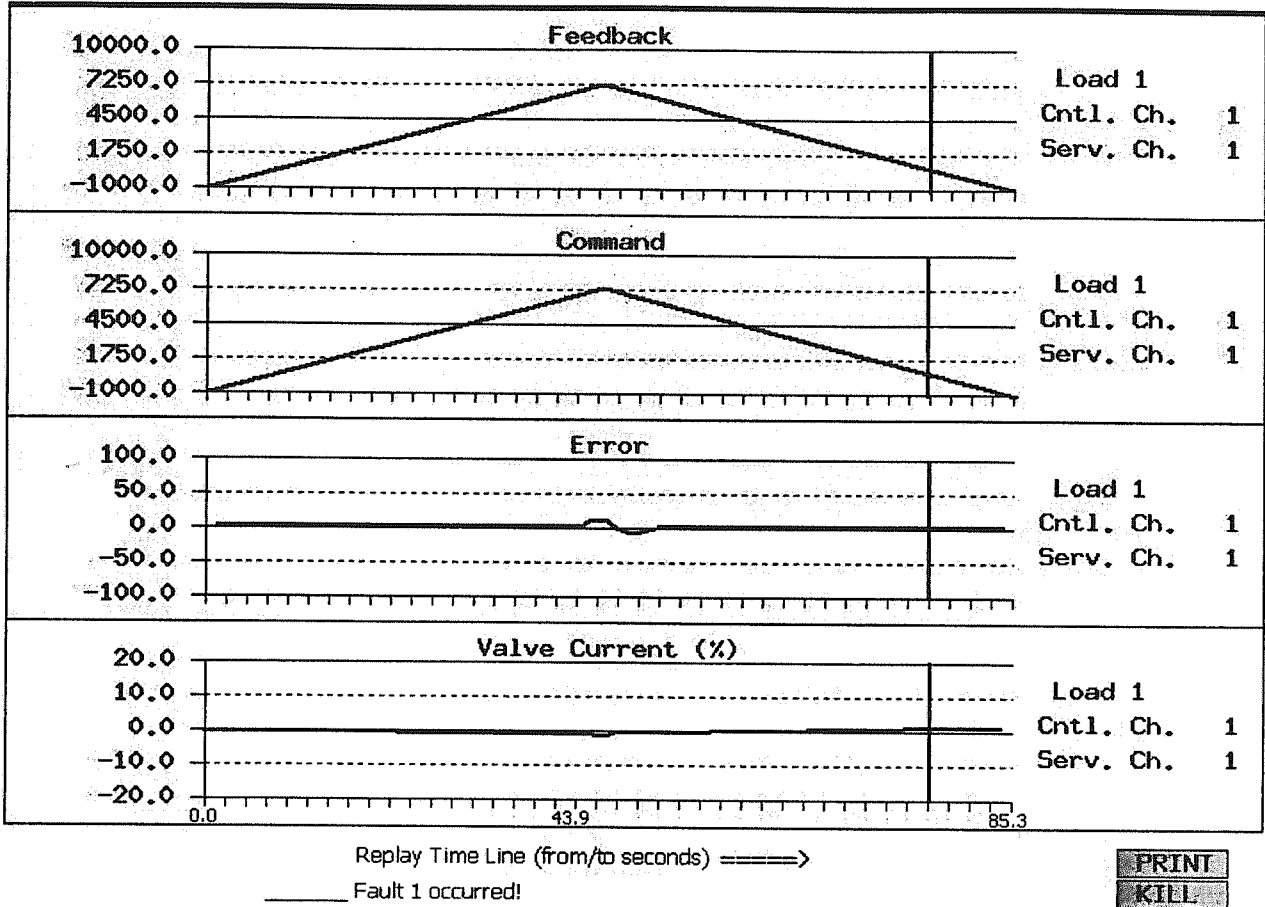

Figure 14-5 Strip Chart Display with Full Time Range
Step 5) Select **DISPLAY** and press **RETURN**. If "**Manual**" scaling was the selected scaling method, another dialog box will appear, prompting you to define the vertical axis for each chart. Fill in the required information and press **RETURN**. A strip chart similar to the one shown in **Figure 14-5** will appear on the X-terminal.
The x-axis shows the selected time range. Additionally, a vertical line indicates the point in time at which the fault occurred (i.e. Fault#1 or Fault#2). For the example display shown in **Figure 14-5**, the entire buffer (all 4,096 samples) is displayed.